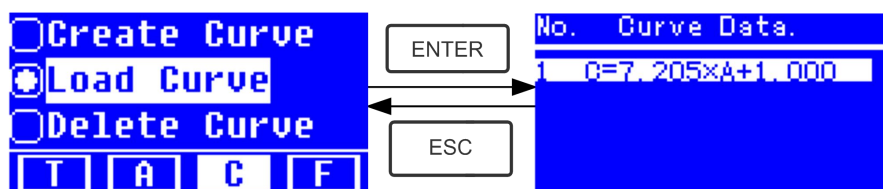

Fig. 4-13
- ★ Move the cursor on "Load Curve" and press ENTER to confirm. Then the system will go into the curve equation record interface.(Fig. 4-13)